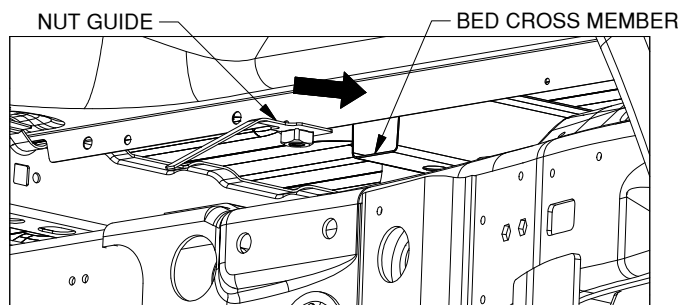

Figure D5: View looking in passenger side wheel well.
- 6. Install passenger side forward bolt.** The nut guide will need to be positioned under the passenger side forward hole location with the nut on the bottom side of the guide. Insert the nut guide into the bed cross member, see Figure D5. Hold the nut under the hole while a 1/2" x 2" hex head bolt with a 1/2" lock washer is passed down through the forward mounting hole and threaded into the nut guide by another person.